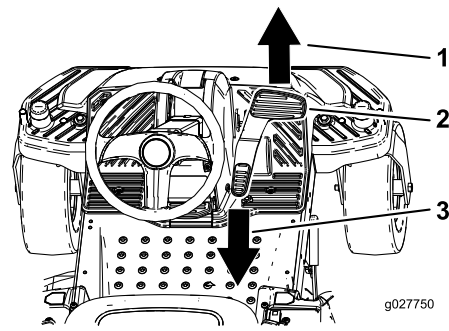

Figure 13
2. Place your foot onto the traction-control pedal and slowly press the top of the pedal to go forward, or press on the bottom of the pedal to move backward (Figure 13).